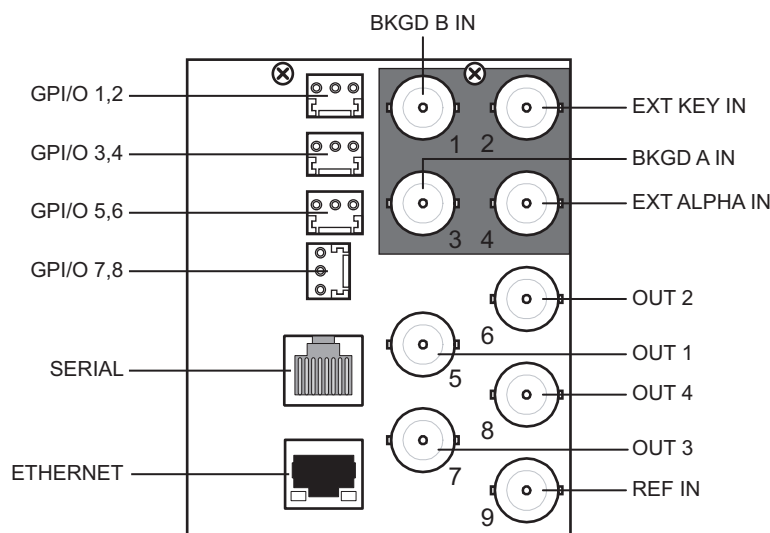

Figure 2.4 Cabling Designations — 8320AR-033 Rear Module
Refer to **Figure 2.4** and the rear module label for cabling designations.
2. Connect and secure the RJ-45 connector of the Serial Interface Cable to the **Serial** port on the rear module. (**Figure 2.4**)
2. Connect the card to the same subnet as your DashBoard computer or to a network that has a route to the network your DashBoard computer is on. Refer to **Figure 2.4** for the **Ethernet** port location on the rear module.
1. Locate the GPI/Tally ports on the rear module. Refer to the rear module labeling, and **Figure 2.4** for port locations.
1. Locate the GPI/Tally ports on the rear module. Refer to the rear module labeling, and **Figure 2.4** for locations.